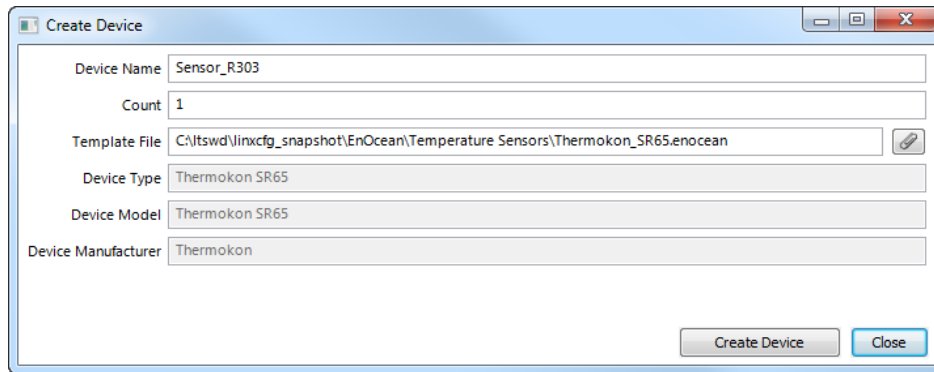

Figure 172: EnOcean device creation dialog
3. In the **Create Device** dialog enter a Device Name and a Count of devices to be created as shown in Figure 172.